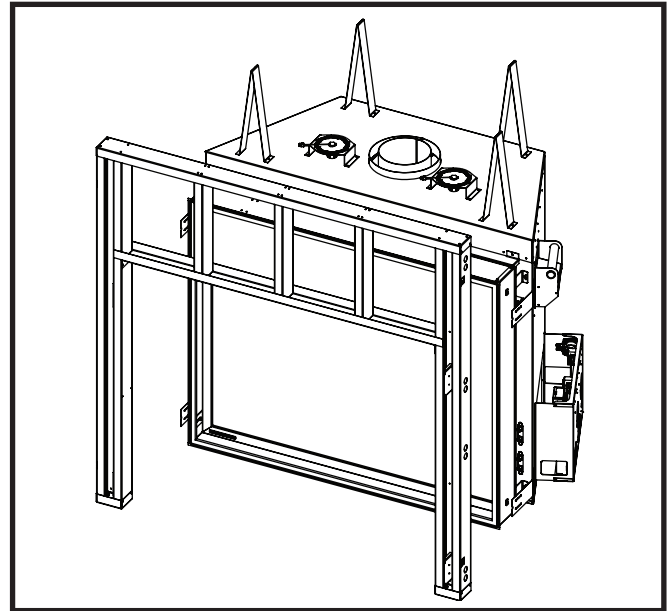

Figure 15: Align the assembled frame with the fireplace.
- Align the assembled frame to the unit framing brackets (Figure 15). Align the framing plates (8) to the fastening points through the access holes in the outer side studs (3).